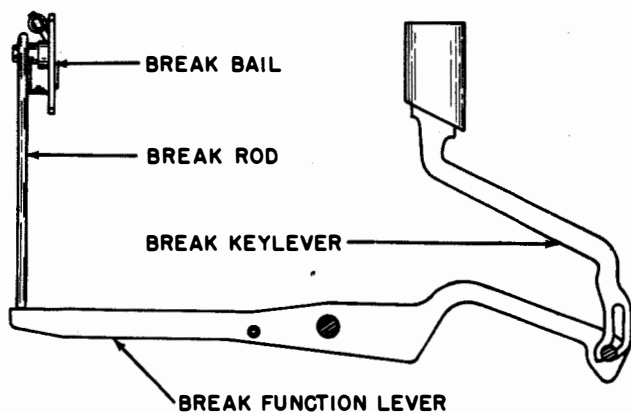
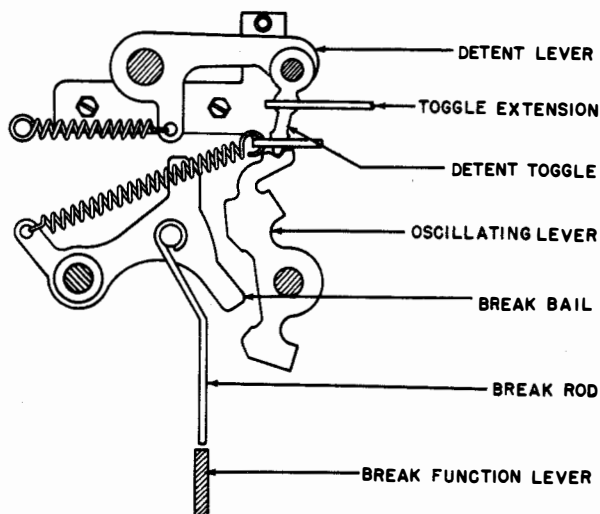

Figure 2-23. Break Mechanism
Figure 2-24. Break Mechanism
g. **BREAK MECHANISM.**—Operation of the break keylever (red) causes its function lever to raise the break rod and shift the break bail (figure 2-23). As the break bail moves upward, its lower end engages the lower end of the oscillating lever to rotate the lever counterclockwise as viewed from the rear (figure 2-24). The oscillating lever shifts the detent toggle toward the left where it is held by the detent lever. The detent toggle moves the toggle extension in the contact assembly toward the left and causes the contact toggle to pivot on the spacing contact and break the marking contact